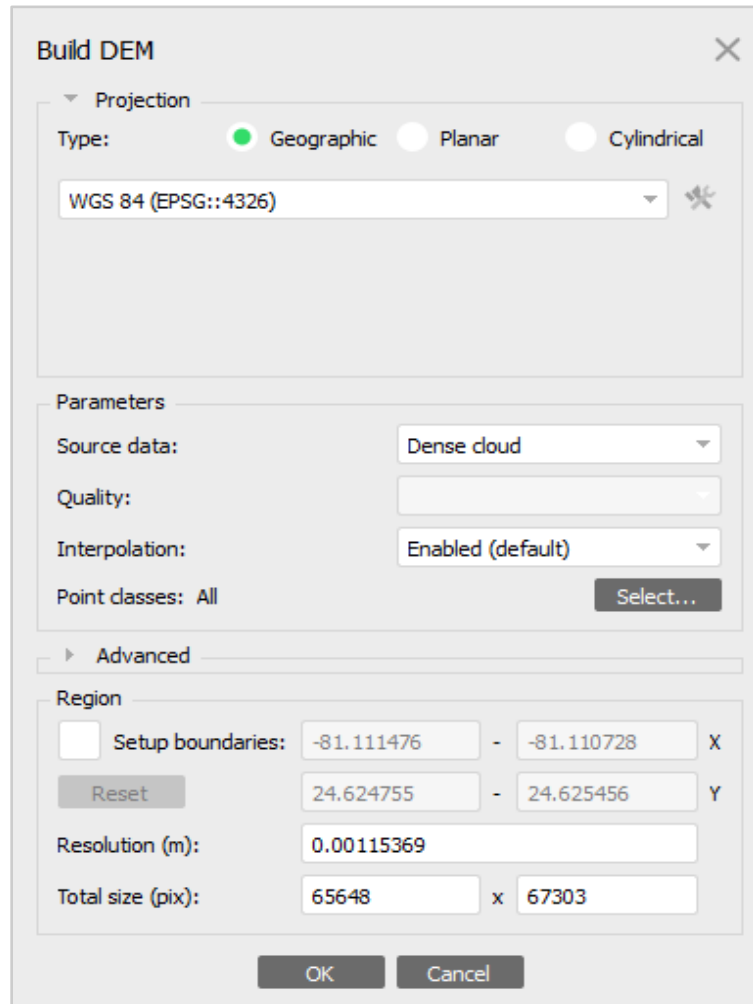

Figure 33. Build DEM window with settings to build DEM as described in step 1.
1. Right-click the DEM & Orthomosaic chunk, select Process, and then Build DEM. A new window called Build DEM will appear (Figure 33). Accept defaults for resolution and total size, and change settings according to Figure 33. Click OK.